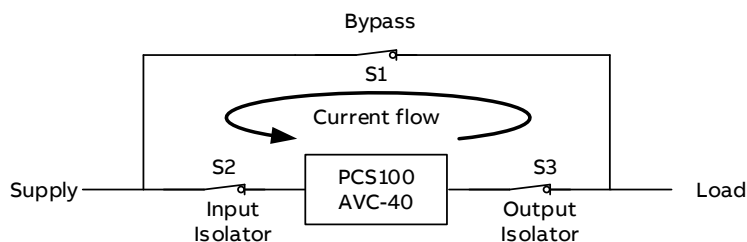

Figure 0-1: PCS100 AVC-40 with external bypass circuit
69.	Set 21 Test Mode to OUTWAVEPLL. Start the PCS100 AVC-40. Increase 22 Test Voltage until the load current on the GDM status screen equals approximately 95%. At this time full rated load current will be flowing through the short circuit on the supply side of the Injection Transformer created by switches S1, S2 and S3 as shown in Figure 0-1. Allow temperatures to stabilise (will take several hours) and check the transformer, switch, and cable connection temperatures are not excessive.